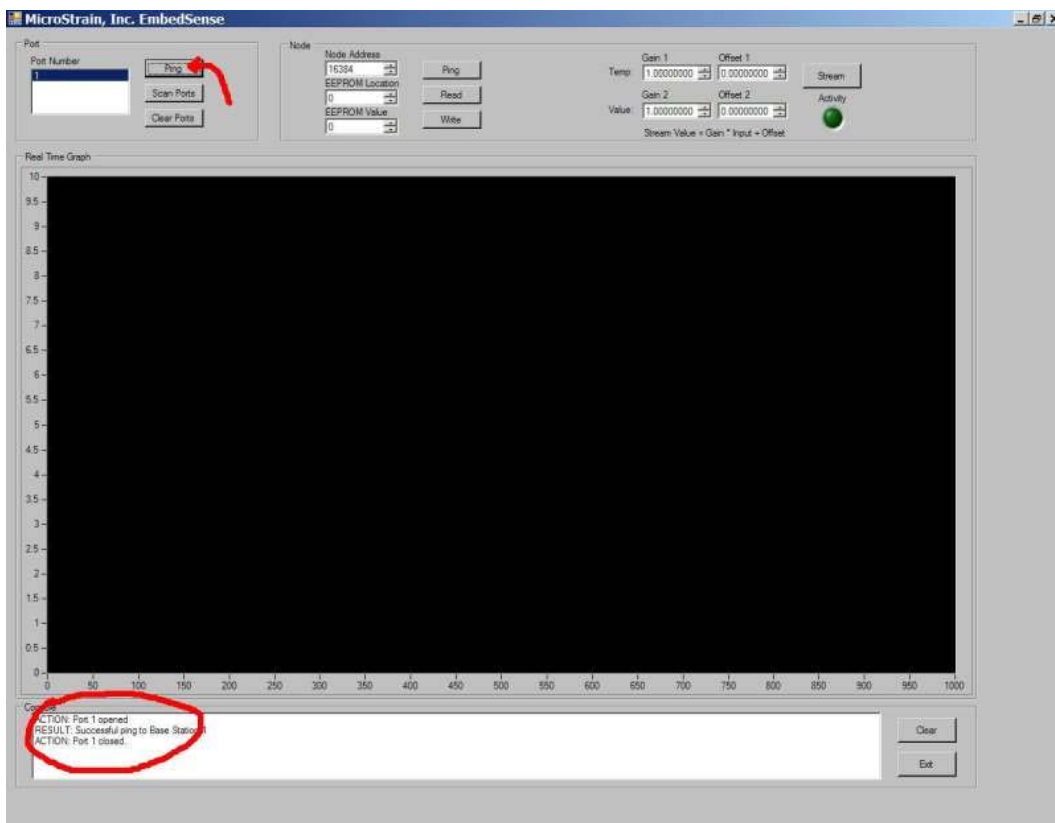

Figure 1
- The port which is communicating with the Reader Assembly will be identified by number in the Port Number box. **See Figure 1.**